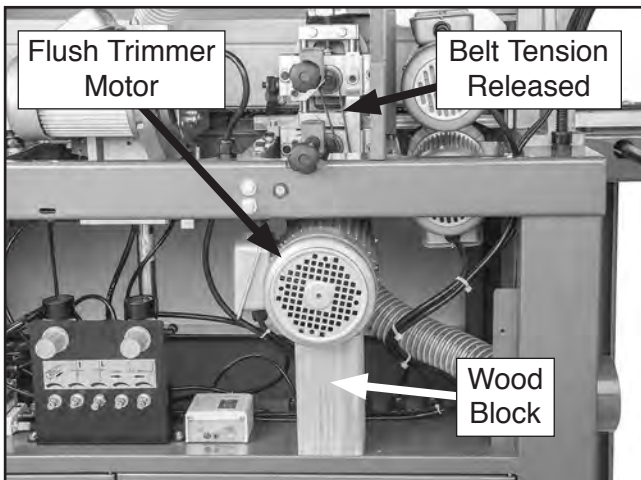

Figure 112. Flush trimmer motor raised and supported on wood block to release belt tension.
5. Raise motor by hand, then support it with a 4" x 4" x 6" wood block to release belt tension (see **Figure 112**).